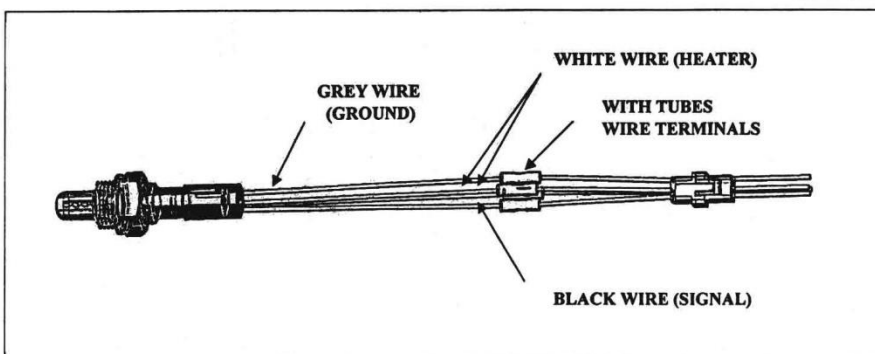

FIG. 4
5. CRIMP EACH WIRE OF NEW O2 SENSOR INTO THE OTHER SIDE OF THE BUTT TYPE CONNECTOR (SEE FIG. 4) TO MEET THE FOLLOWING WIRE PAIRING COLOR CODE SPECIFICATION: